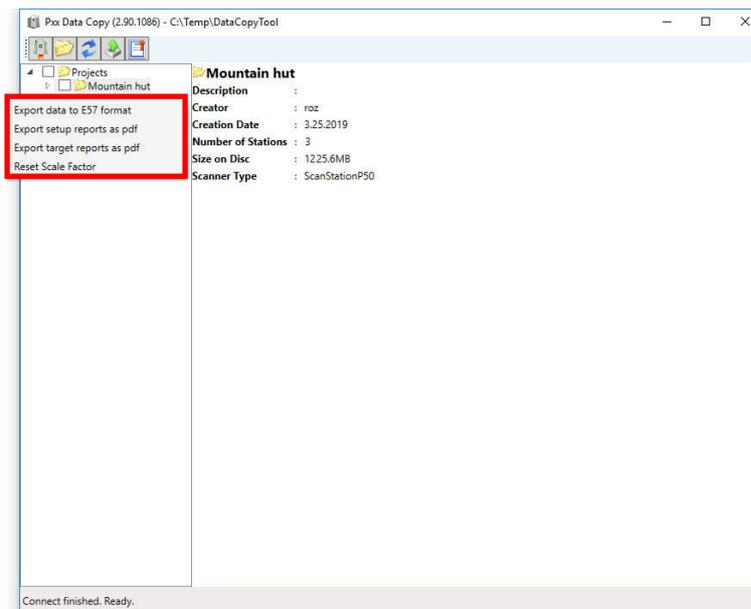

Figure 5: Right click menu for data stored on local computer.
To reset the scale factor right click on the project or individual station in *Content Frame (1)* and click *Reset Scale Factor* in the right click menu (Figure 5).